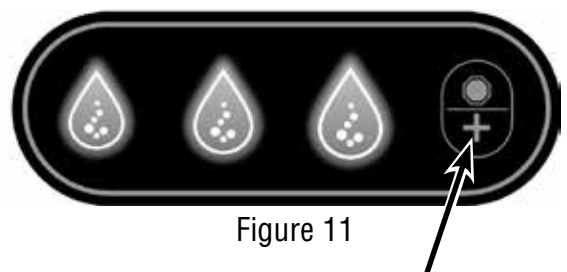

Figure 11
3. Dispense water from the SPARKLING WATER lines by pressing & holding the "+" button (Figure 11), till the cloudy appearance dissipates and the water flows clear.